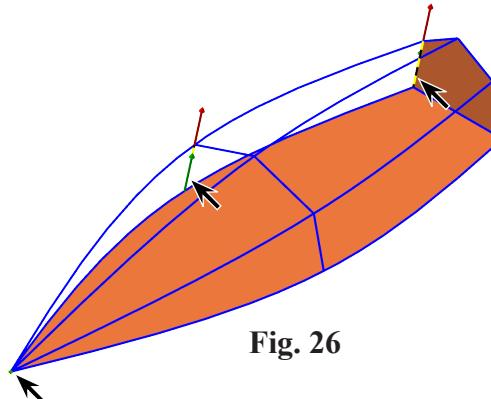

Fig. 26
Step 3. Chain rib entities on the port side in order, **rear Line** and **middle Line**. Select Lines at the same end, Fig. 26. If when chaining the Lines chaining directions arrows do not pointing in the same direction - click Reverse  in the Chaining dialog box.
Step 5. Click the Point, Fig. 26.